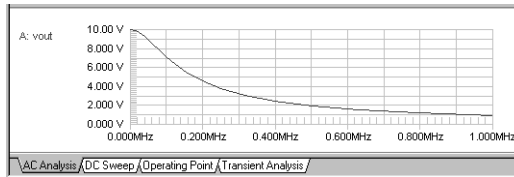

Figure 3.21. AC Analysis showing Magnitude vs. Frequency.
- 17 Select the **AC Analysis** tab in the Analysis Window, then click the Vout wire. An AC Analysis waveform is displayed on the chart. See Figure 3.21.